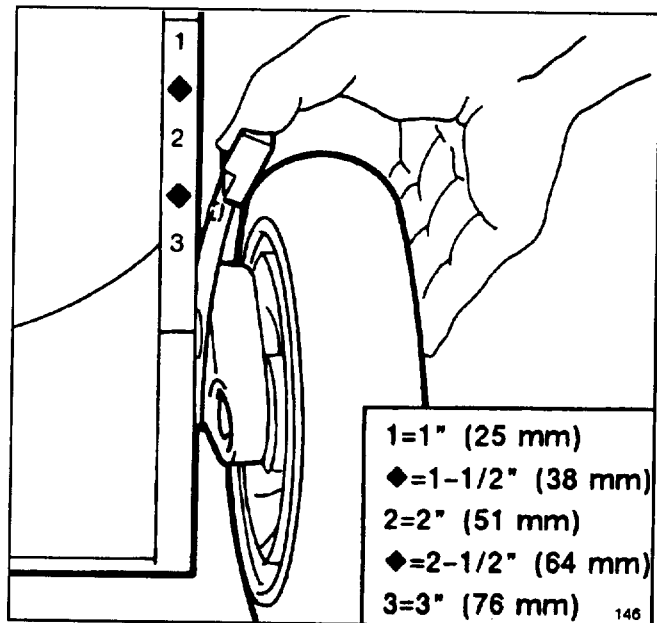

Figure 14
2. For easier adjustment, lift housing up so wheel is off ground. Do not place hands under deck to lift housing. Squeeze adjusting lever toward wheel and move to desired setting (Fig. 14). Ensure pin on adjusting lever engages notch in housing. Adjust all wheels to the same setting.